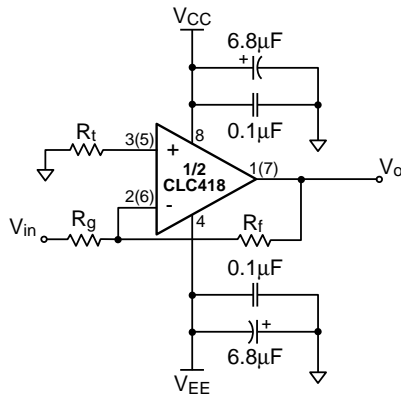

Figure 2: Inverting Gain
The inverting DC voltage gain for the configuration shown in Figure 2 is: $A_v = -\frac{R_f}{R_g}$
- Place a 50 to 200 Ω resistor between the non-inverting pin and ground (see R_t in Figure 2)